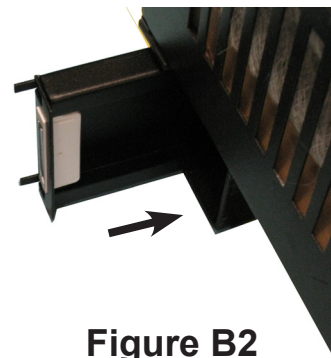

Figure B2
- 2.1 Facing the front of the UPS, slide a side kick plate with the smooth side facing out down along the left base C-channel skid until it is protruding about one inch in front of the UPS. See Figure B2.